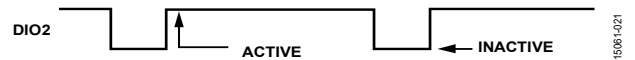

Figure 29. Data Ready, when FNCTIO_CTRL, Bits[3:0] = 1101 (default)
The factory default configuration provides the user with a data ready (DR) signal on the DIO2 pin, which pulses low when the output data registers are updating (see Figure 29). In this configuration, connect DIO2 to an interrupt service pin on the embedded processor, which triggers data collection, when this signal pulses high. Register FNCTIO_CTRL, Bits[3:0] (see Table 144), provides user configuration options for this function.